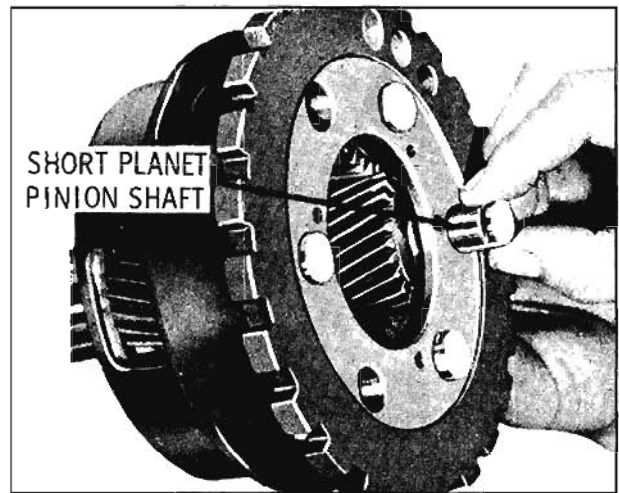

Fig. 6-405 Installing Short Pinion Gear
11. Position short planet pinions with thrust washers at each end of the planet carrier. Install pinion shafts from the rear of planet carrier. As the pinion shaft is being pushed in, make certain that it picks up the thrust washers. Turn the pinion shaft so the groove faces center of planet carrier. (Fig. 6-405)